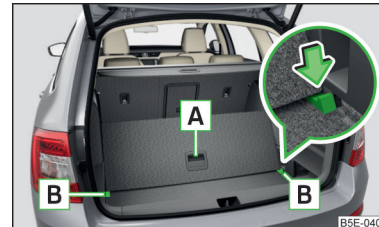

Fig. 145 Dividing the boot with variable loading floor
- › To **divide**, lift the variable loading floor by the handle **A** and push in the rear edge of the variable loading floor in the grooves **B** in the direction of the arrow » Fig. 145.